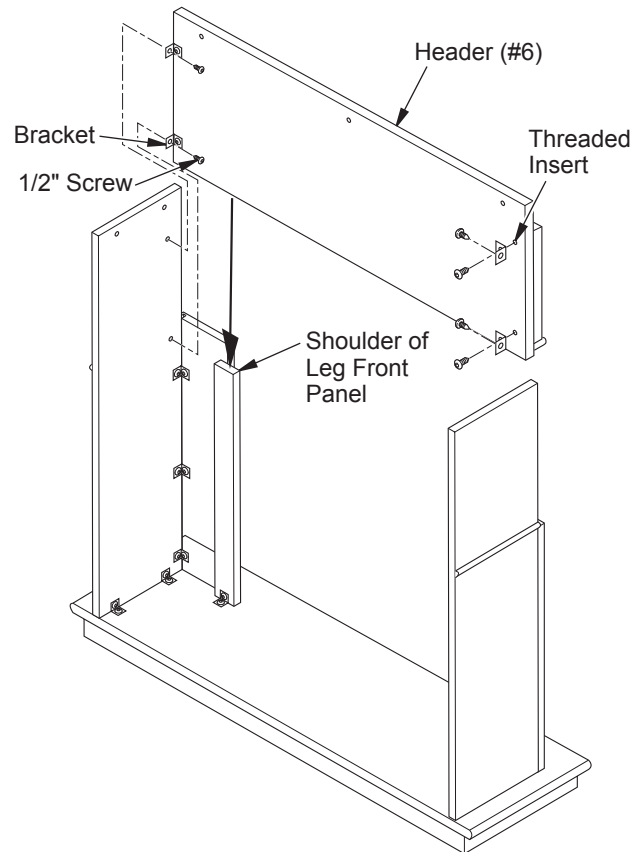

Figure 3 - Attaching Header
2. Place header (#6) into position on top of leg assemblies with arrow pointing up. Bottom of header will slide behind upper portion of leg front panels and rest on shoulders (see Figure 3). Align bracket holes with threaded inserts in leg assemblies. Using four 1/2" screws through brackets, attach header to leg assemblies. Leave screws loose.